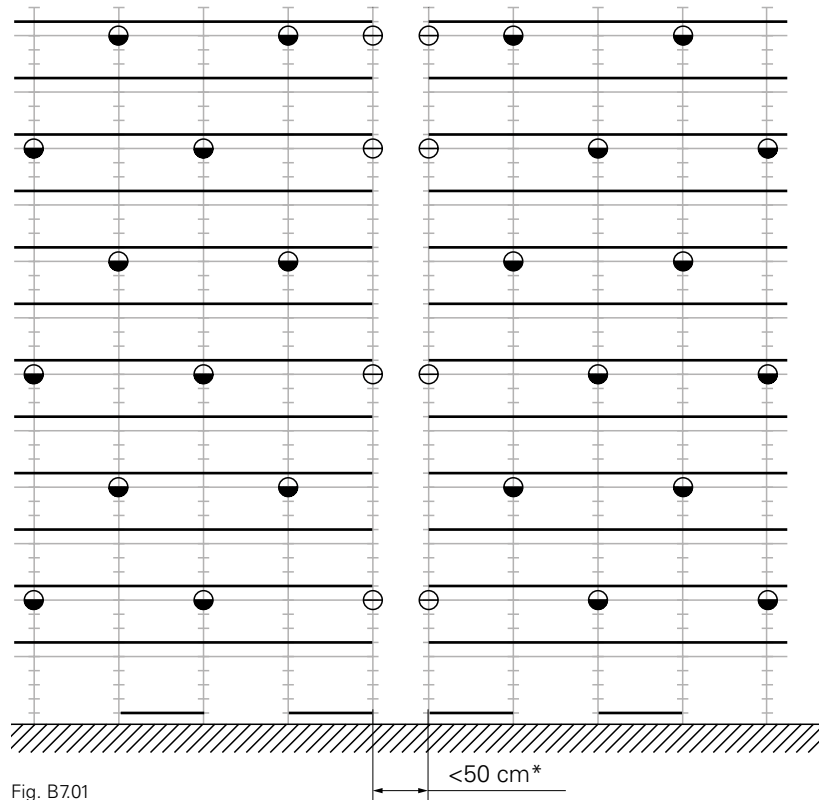

Fig. B7.01
- Erect the scaffolds to the right and left of the filler area as stand-alone scaffolding. Anchor the edge stand-ards according to the respective tie pattern. (Fig. B7.01)